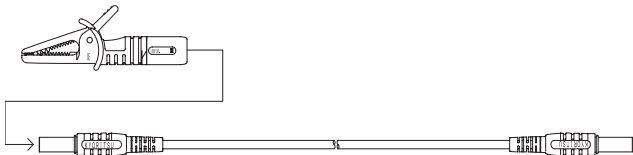
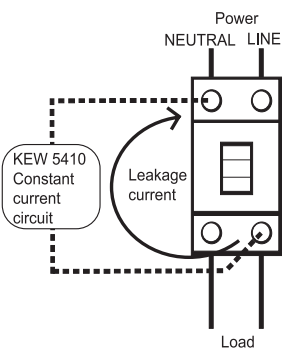
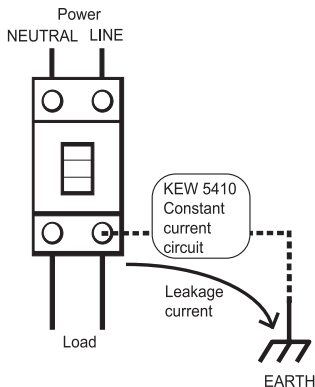

Fig. 4
Fig. 5
Fig. 6
(1) Unscrew and remove ① shown in Fig.4 and remove the Tip pin.
(2) Install the Long pin and tighten ①.
This instrument has a constant current circuit, and drives leakage currents (I) between LINE-NEUTRAL as illustrated in Fig.5 to activate RCDs, moreover, can output and measure leakage currents flowing to the earth as shown in Fig.6.